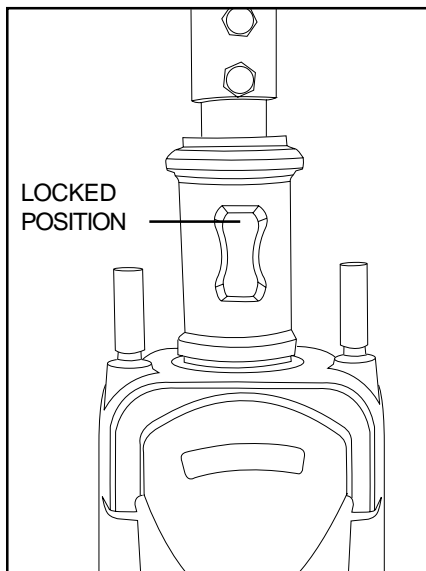

Figure 16. Tiller Lock knob (Locked)
1. Lock the tiller in place by pushing the tiller lock knob in and turning it clockwise 90°. See figure 16. The front wheel must face forward in order to lock the tiller.